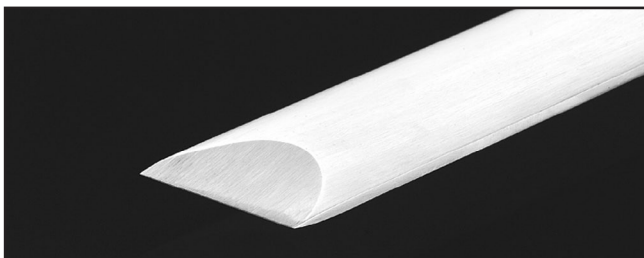

Figure 20. Skew chisel.
- **Skew Chisel:** A very versatile tool that can be used for planing, squaring, V-cutting, beading, and parting off. The skew chisel is flat, double-ground with one side higher than the other (usually at an angle of 20-40°). **Figure 20** shows an example of a skew chisel.